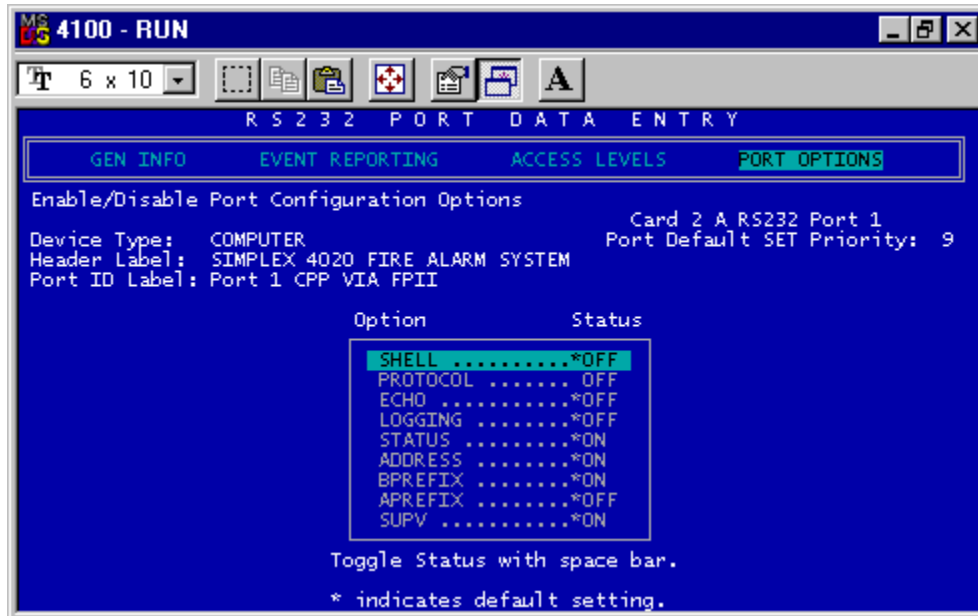

Figure 16. DOS Port Options
- After saving the function settings by using the Escape key and answering prompts, use the arrow keys to select **Port Options** option (see Figure 16).